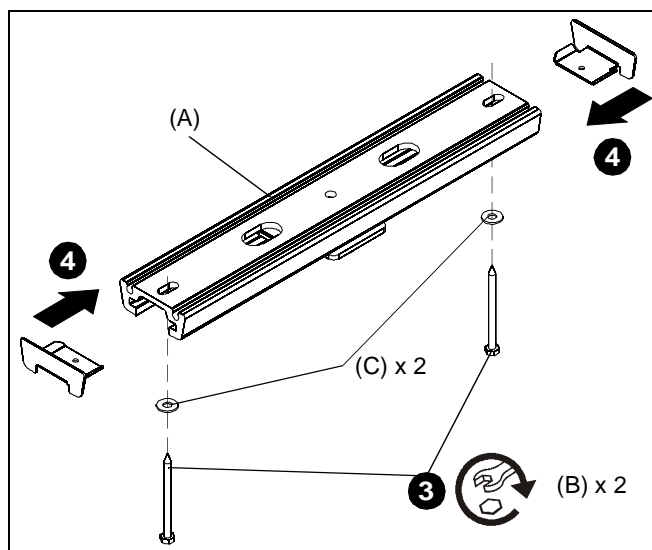

Figure 2
3. Install ceiling plate (A) to ceiling using two 1/4-20 x 3-1/2" lag bolts (B) and two 1/4" flat washers (C). (See Figure 2)
4. Re-install end caps onto ceiling plate (A). (See Figure 2)